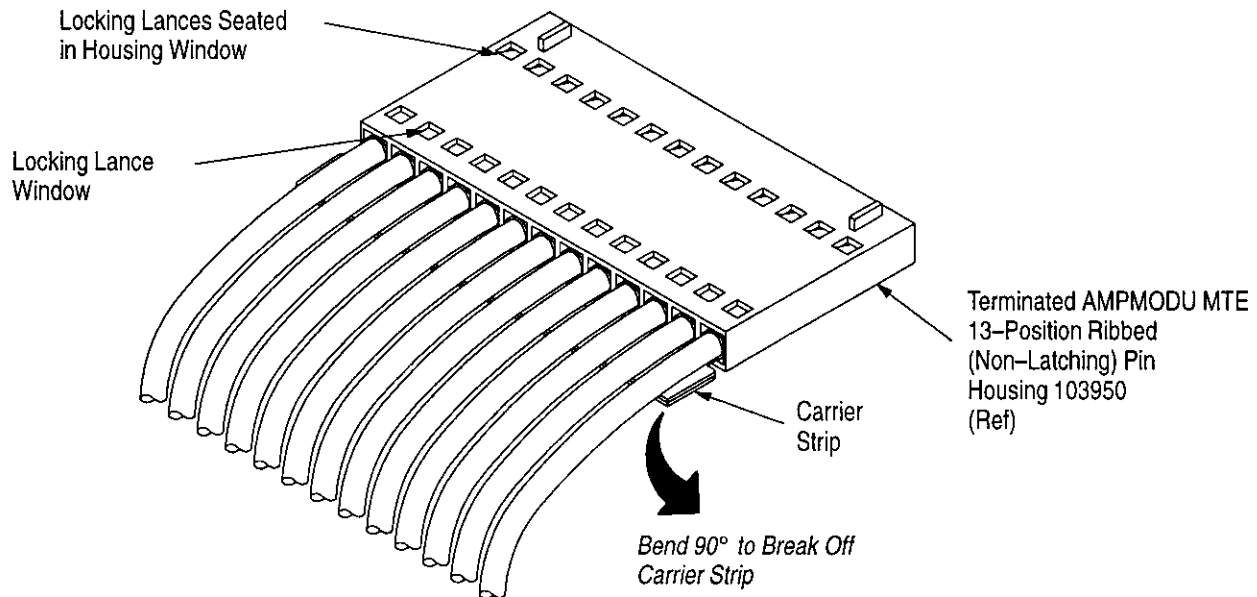

Figure 4
4. TERMINATING PROCEDURE (Figures 4 and 5)
Individual housing assemblies with less than 13 contact positions cannot be terminated in the tube feed assembly. To terminate a housing assembly with less than 13 positions (for example, when making repairs), use a strip-form housing. Terminate the contacts in the housing; then push the carrier strip through the insertion station assembly and remove the housing from the tube feed assembly. Inspect the contacts to ensure proper termination. Refer to Section 5, TERMINATION INSPECTION. Manually seat the contacts into the housing until the locking lances are seated against the housing window. Grasp the carrier strip and bend it downward in a 90° angle; then bend it upward until it snaps off. See Figure 4.
12. Grasp the carrier strip and bend it downward in a 90° angle; then bend it upward until it snaps off. Refer to Figure 4.